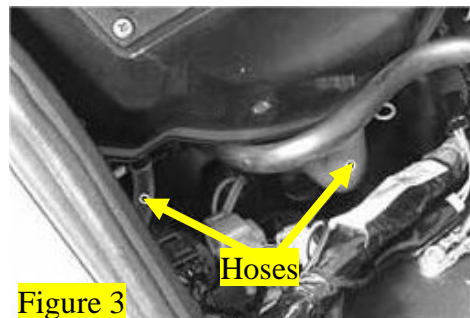

Figure 3
4. Remove hoses from rear of air box. See figure 3.